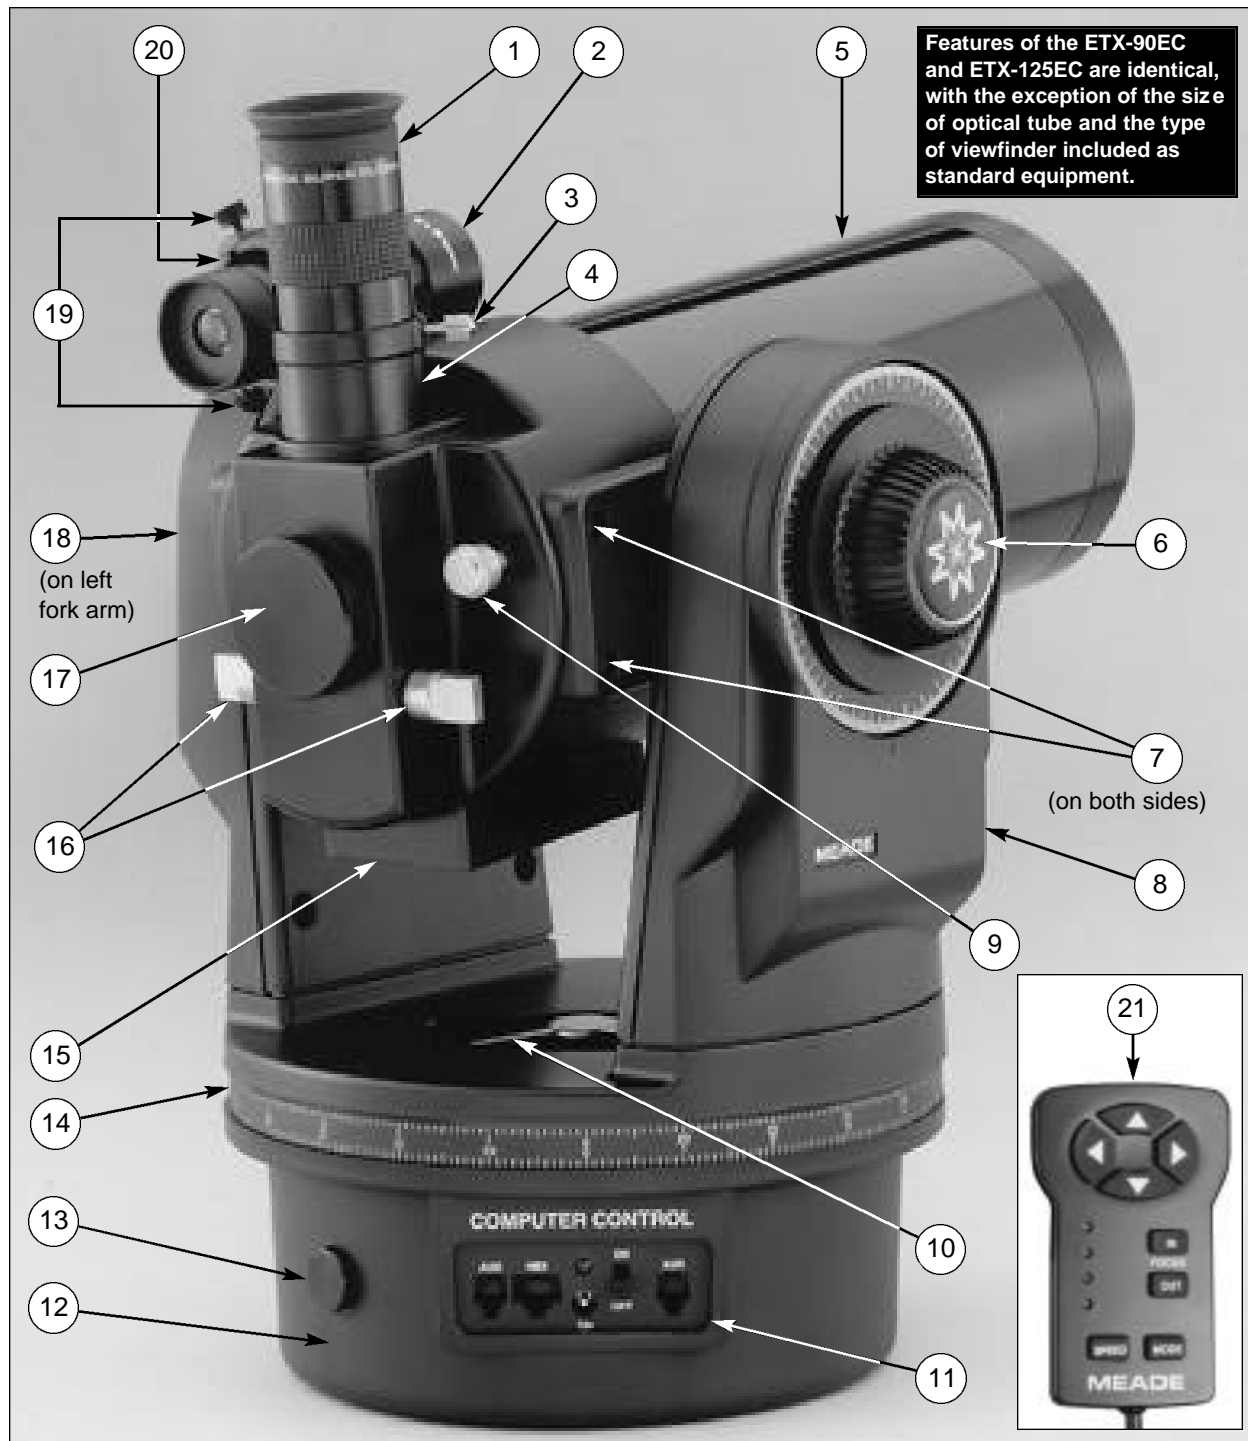

Fig. 1: The ETX-90EC Astro Telescope.
Verify that the computer control panel power switch (E) is in the OFF position. Remove the Electronic Controller (F) from the packing materials and plug it into the HBX port (G). Tighten the vertical and horizontal locks (6 and 10, Fig. 1), then remove the dust cover from the end of the telescope tube.
NOTE: Before observing, verify that the flip-mirror control (16, Fig. 1) is in the "up" position. See Flip-Mirror Control, page 6, for more information.
Sight along the side of the telescope's main tube to locate an object. Practice using the arrow keys on the Electronic Controller to center an object in the telescope's field of view. Use the telescope's focus knob (9, Fig. 1) to bring the object into focus.